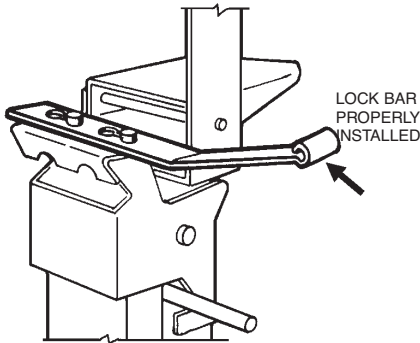

FIGURE 1
2. Insert the lock bar (Part No. 14985) on the cocked regulated release mechanism. See Figure 1.